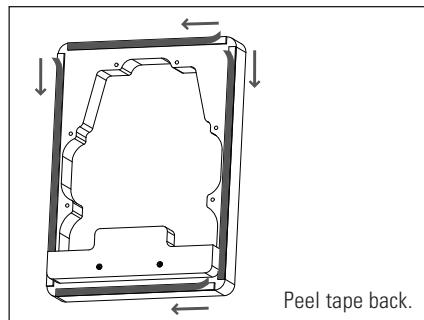

Fig. 5b
- Remove double-sided tape (Fig. 5b).